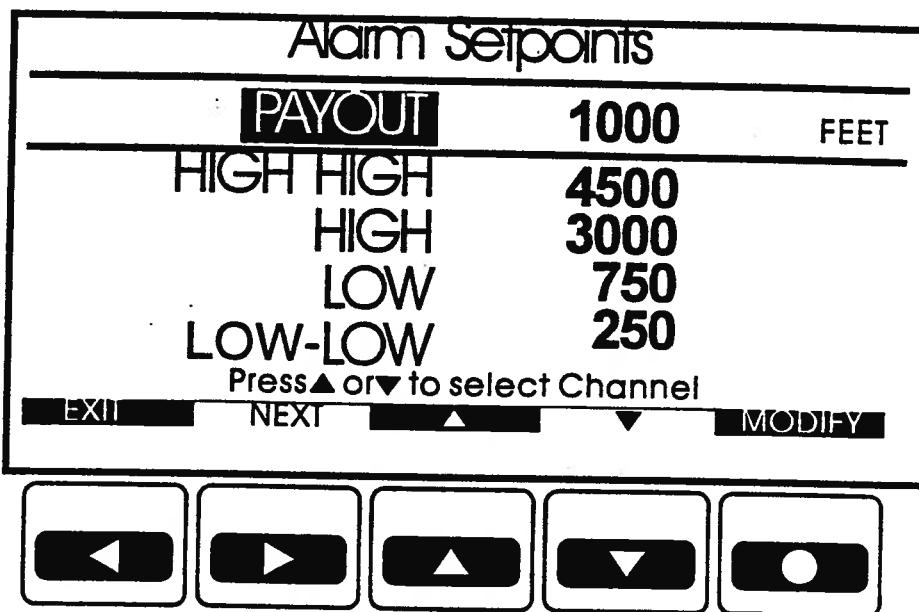

Figure 4-3. Alarm Setpoints Screen
1. Choose **Alarm Setpoints** on the Main Menu to display the Alarm Setpoints Screen (Figure 4-3).